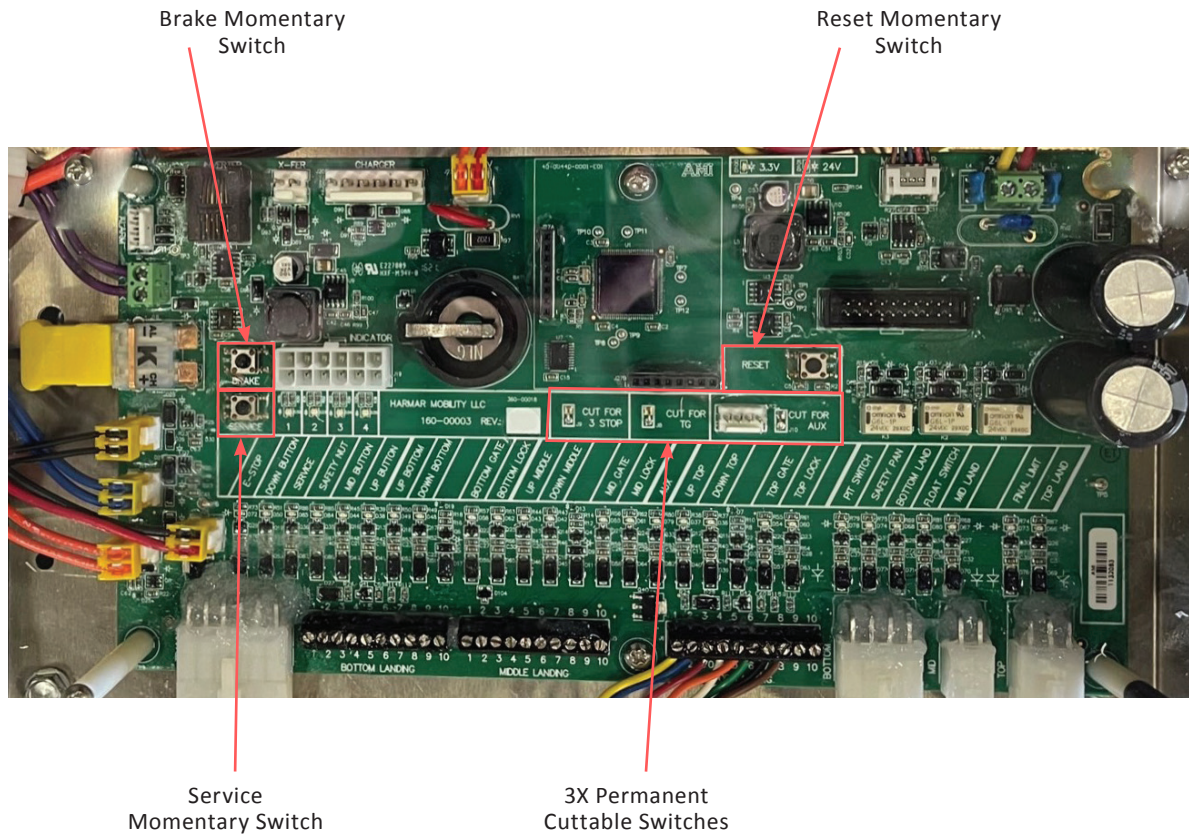

Figure 6-5
The control board has three (3) momentary switches and three (3) permanent cuttable switches/jumpers. See Figure 6-5.